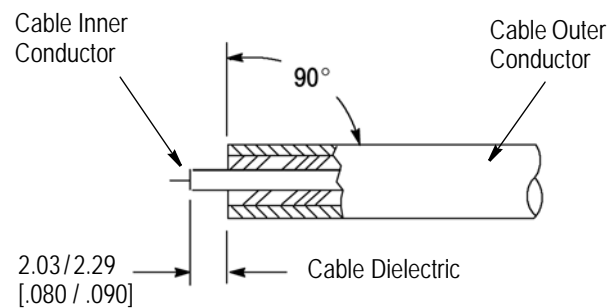

Figure 3
3.1. Preparing the Cable (Figure 3)
Trim cable to the dimensions shown in Figure 3.
1. Trim inner conductor to length as shown in Figure 3.